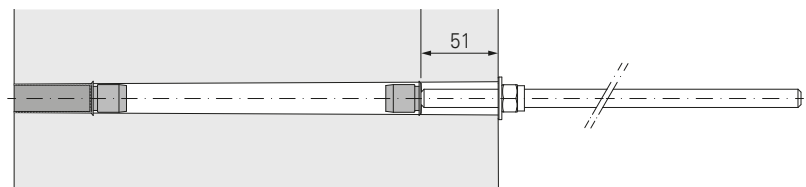

Fig. A5.03
5. Push the plug (**71a / 71b**) into the larger side of the tie hole with the threaded rod against the flat surface of the plug. (Fig. A5.03)